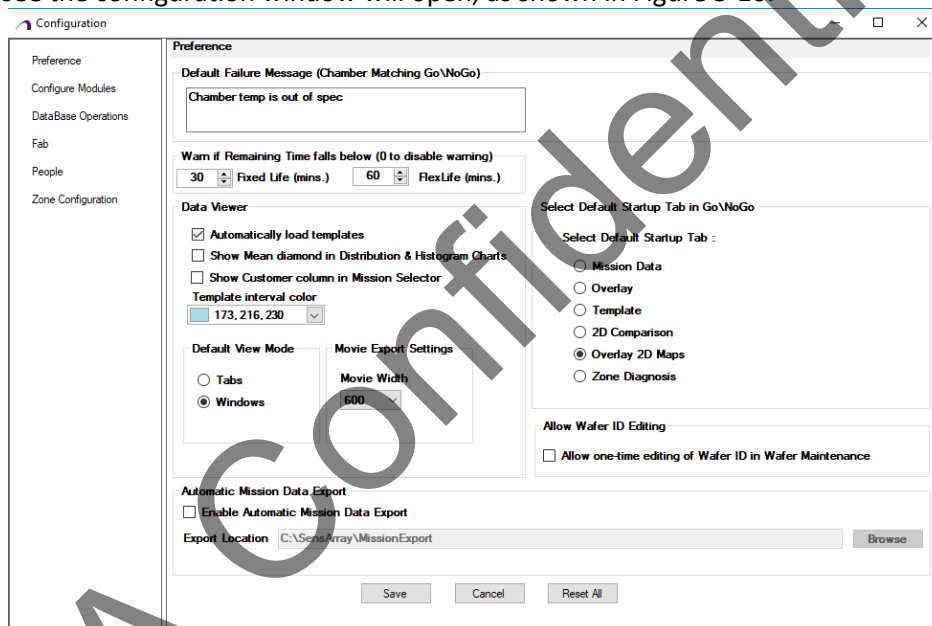

Figure 5-10 SAT Configuration window
2. You can see the configuration window will open, as shown in Figure 5-10.